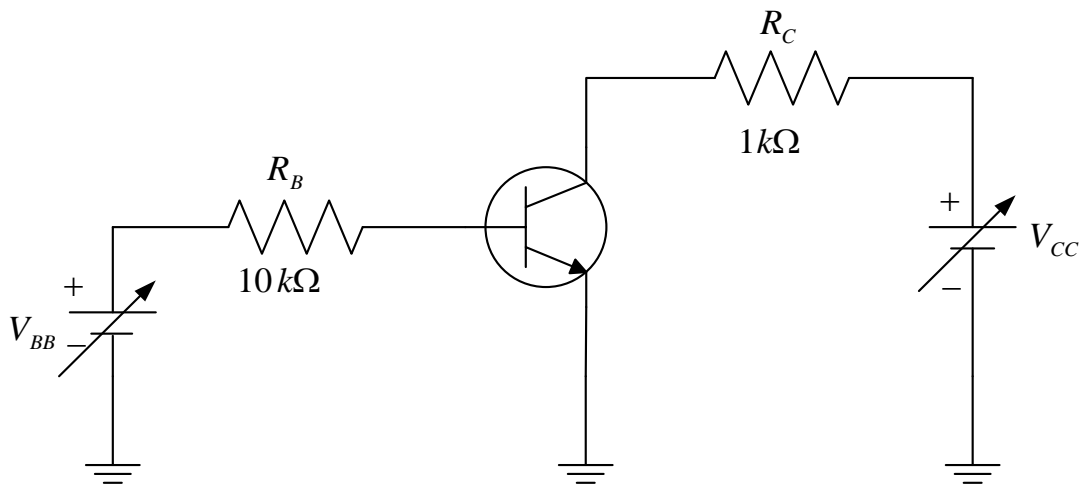

Fig 8.2 Circuit Diagram
1. Connect circuit as shown in Fig 8.2 Set $V_{CC} = 0V$.